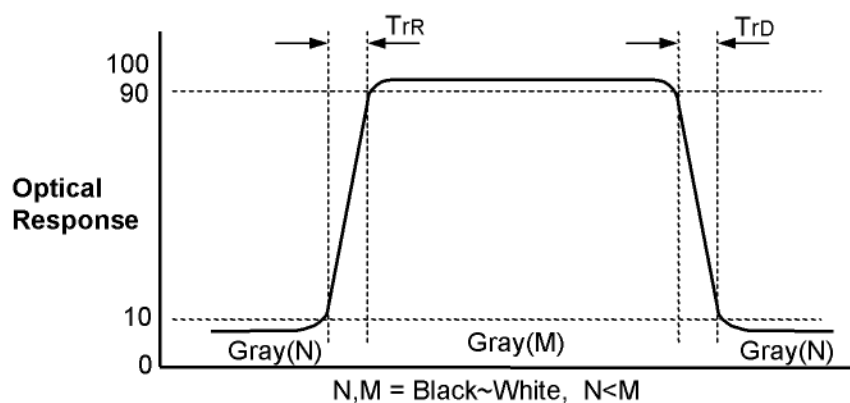

FIG. 3 Response Time
4. Response time is the time required for the display to transit from G(N) to G(M) (Rise Time, Tr_R) and from G(M) to G(N) (Decay Time, Tr_D). For additional information see the FIG. 3. (N<M)